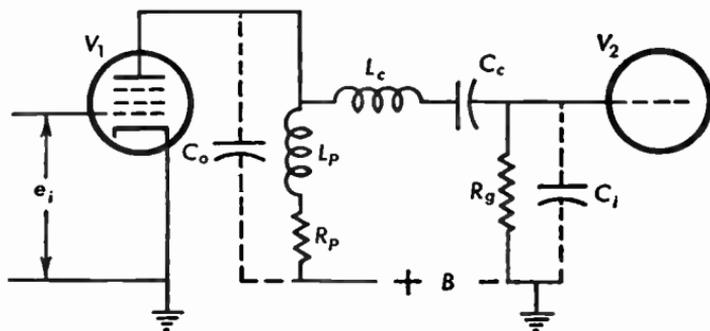

Fig. 11.38a Video amplifier with series and shunt-peaking coils for high-frequency compensation.
**11.38** In the video amplifier of Figure 11.38a,  $R_p = 3600$  ohms,  $r_p = 100,000$  ohms,  $C_c = 0.25$  microfarad,  $R_g = 2$  megohms,  $C_i = 12.5$  micromicrofarads,  $C_o = 7.5$  micromicrofarads,  $L_p = 30$  microhenries,  $L_c = 130$  microhenries, the tube  $V_1$  has a  $g_m = 7700$  micromhos. Calculate the voltage gain at 4 megacycles (a) without the application of the series-shunt compensation, (b) with the application of the series and shunt compensating coils.